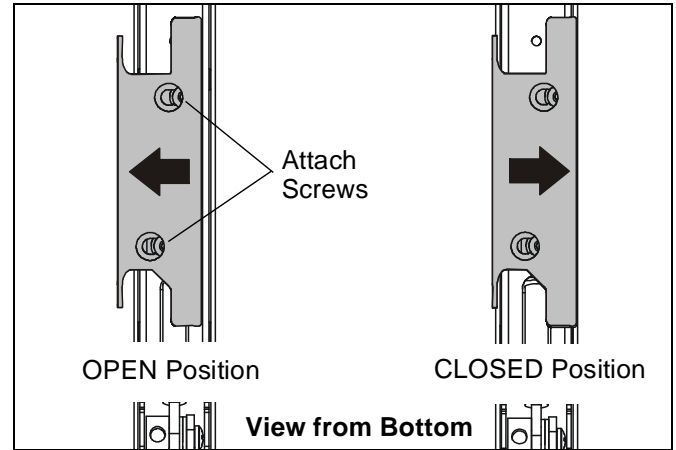

Figure 9:
2. Open the cable management bracket by sliding it towards the edge of the arm (See Figure 9).